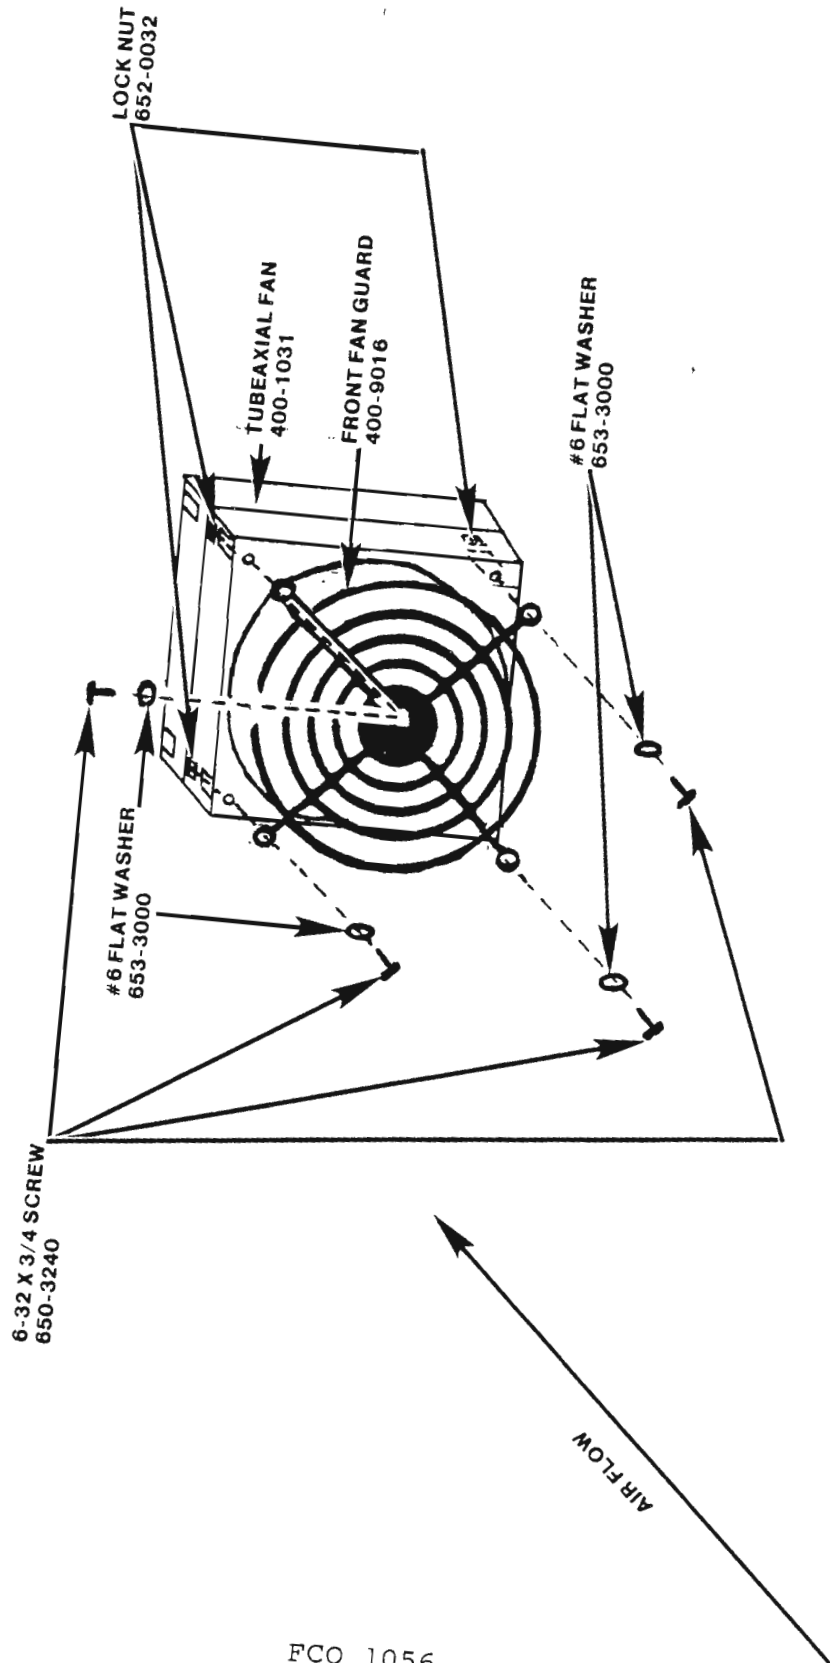

FIGURE 3 TUBEAXIAL FAN AND FRONT FAN GUARD ASSEMBLY/FRONT VIEW
- F. Refer to Figure 3. Insert four 6-32x3/4 screws (650-3240), saved from Step E, through four #6 flat washers (653-3000). Fasten one of the new fan guards (400-9016) to the front of the new 90 CFM tubeaxial fan (400-1031) with the four screws and four lock nuts (652-0032) saved from Step E.